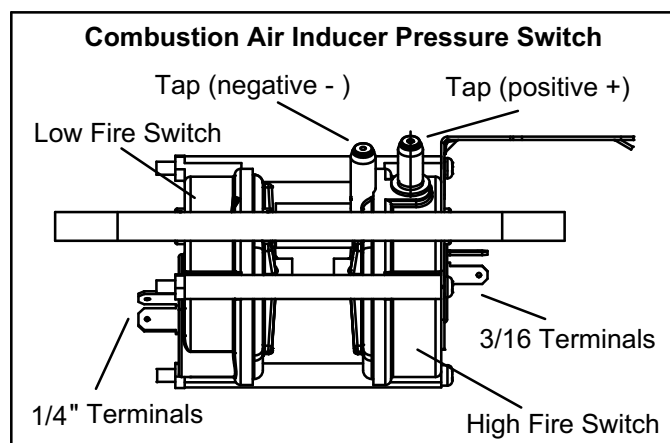

FIGURE 16
8. Combustion Air Inducer Pressure Switch (S18) (Figure 16)